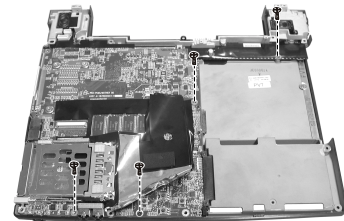

Figure 2-35 Remove four screws
4. Remove four screws that secure the system board. (Figure 2-35)